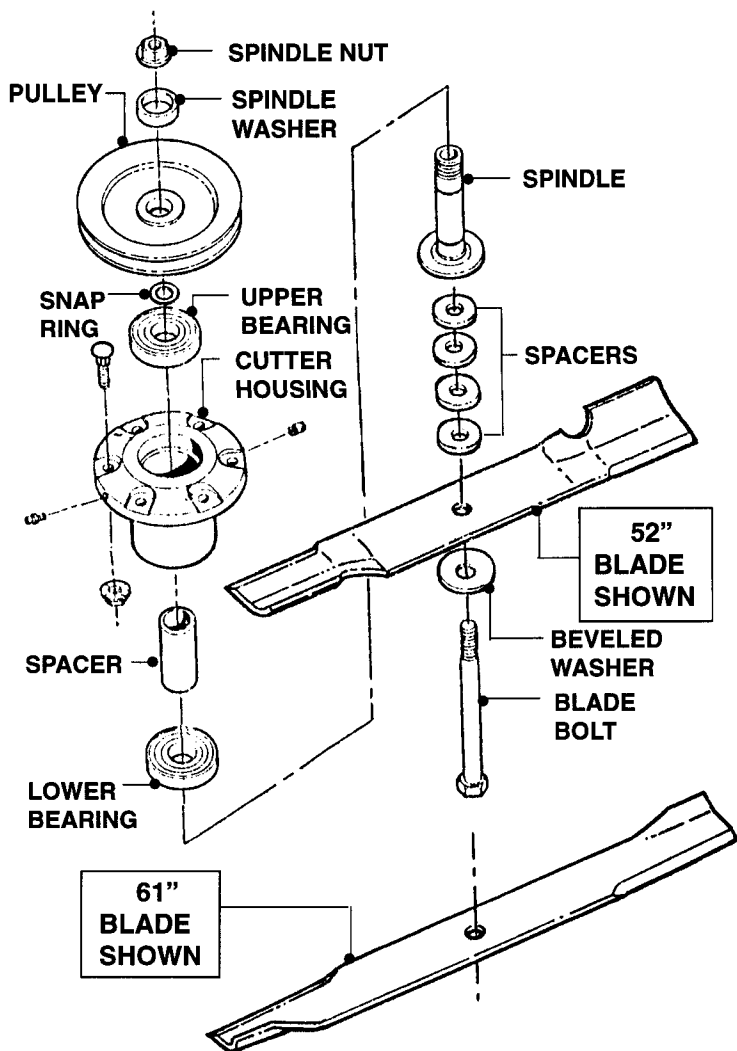

FIGURE 9.5
- B. Remove Spindle Washer. See Fig. 9.5 on Pg. 9.4.